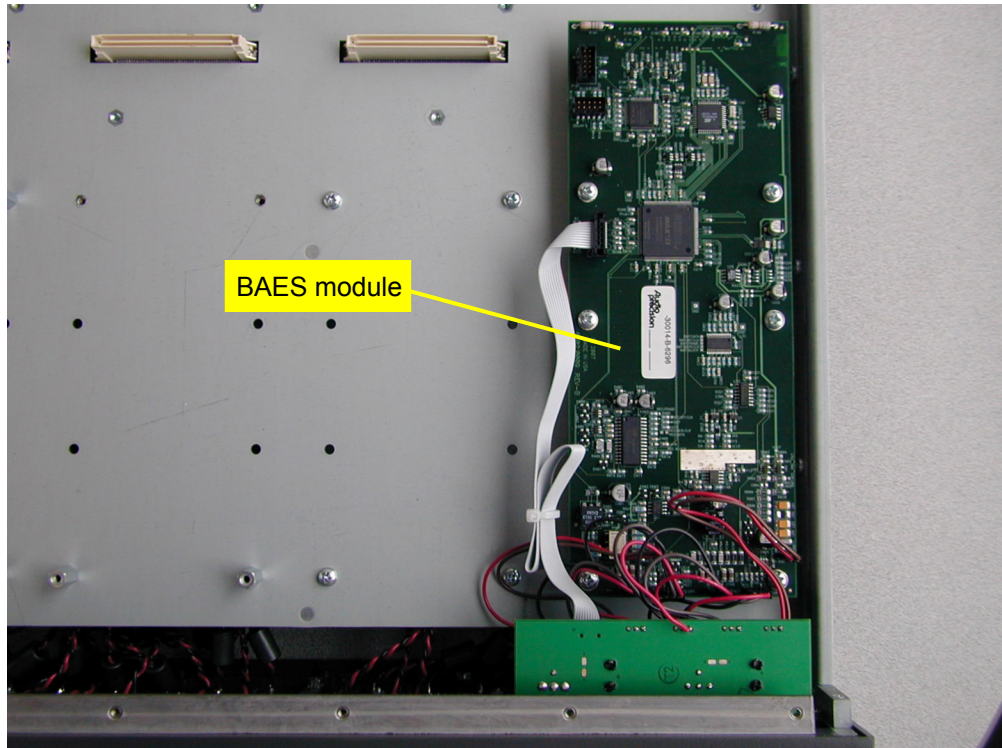

Figure 1 BAES Digital I/O module.
2. Locate the BAES module on the bottom of the instrument behind the Digital I/O module. See figure 1.